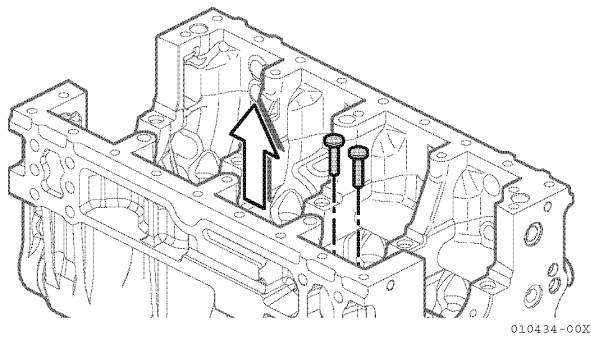

Figure 5-56
53. Remove the tappets from the tappet holes in the cylinder block (**Figure 5-56**).